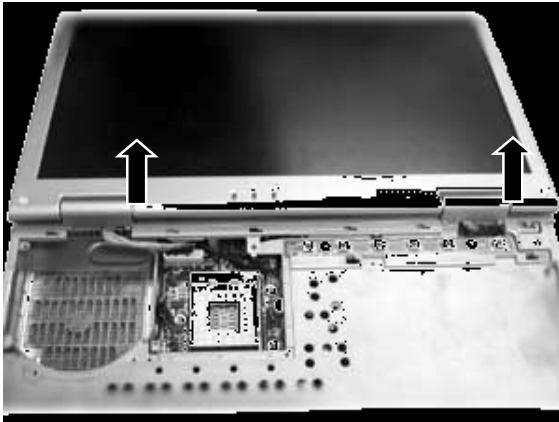

Figure 2-15 Remove the LCD hinge covers
3. Remove the two hinge covers. (Figure 2-15)